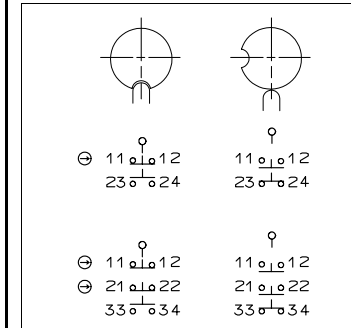

Fig. 6: Switching elements and switch functions
- See connection diagram (Fig. 6).